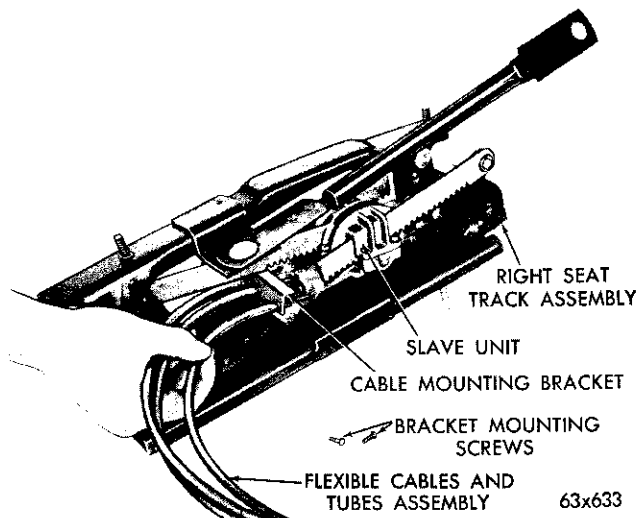
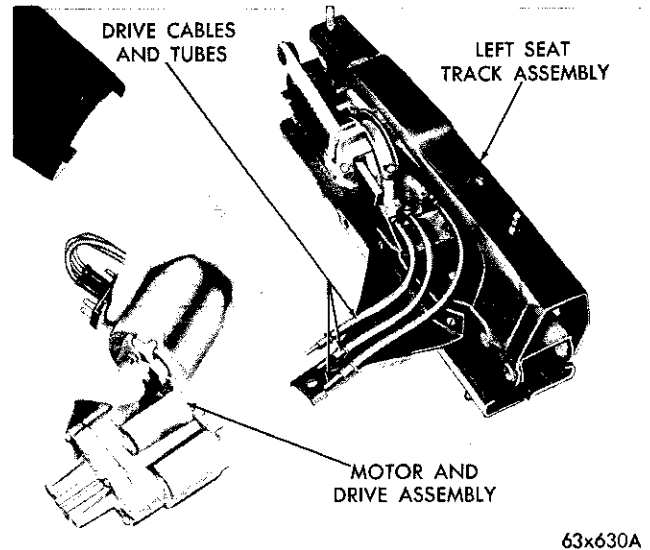

Fig. 3—Removing Cables From Right Slave Unit
Fig. 4—Removing Drive Assembly From Left Slave Unit
(5) Pull the flexible cables from the right side tubes (Fig. 3).
(6) Remove the bolts that hold the motor and drive assembly to the left guide bracket.
(7) Remove the drive assembly with tubes from left slave unit (Fig. 4).
(8) Remove the flexible cables from the tubes.